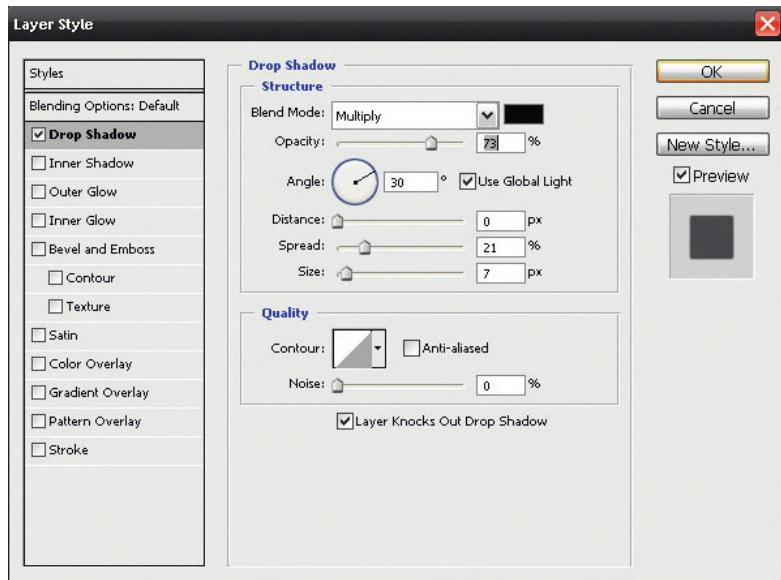

FIG 6.40 Settings for the Drop Shadow Layer Style.
Step 9: Add AO to the outside of the ridges. Do this by selecting the layer(s) that contain the brown ridges. Choose Layer > Layer Styles > Drop Shadow . . . Change the Distance setting to 0, turn the Spread up (try around 20%), and adjust the opacity to taste (Fig. 6.40). Do not click OK yet . . . we need to activate other Layer Styles yet.